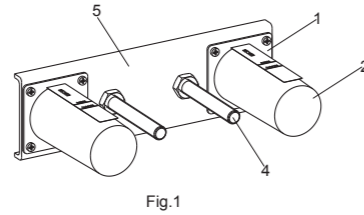
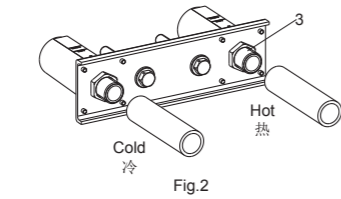

Fig.1
Fig.2
As fig.1 shown mark sure the groove on the temperature handle is aligned with number 38 on the faucet body before your action. Remove the cover(28). Unscrew the screw (30) with a 3mm hex wrench(29, not provided). Remove the washer(31) and the temperature handle kit(32). Loosen the nut(33) with a 23mm sleeve, and remove it as Fig.2 shown.
**NOTE:** The out surface of the finished wall should be between the MAX and MIN marks on the protectors(2) as Fig.1 shown.
Use appropriate thread sealants or thread tape on the outlet bushes(3). Connect G1/2" hot and cold supplies to the outlet kit as Fig.2 shown, and connect hot supply to the left on the outlet kit with red mark.